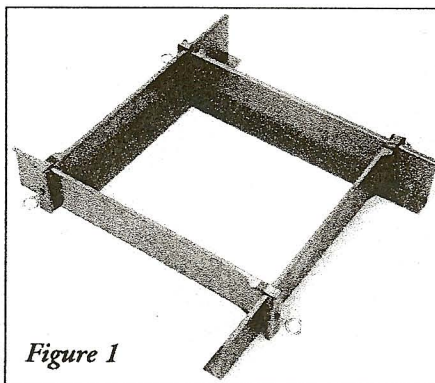

Figure 1
Step 3: Form preparation. If using this crown form the first time, oil the screws and insert them into the clamps. Measure the chimney top and select the four appropriate form sides. Use the 56" sections for chimneys wider than 28". Use the 92" sections (straight side forms only) for chimneys wider than 54". On a flat surface, lay the forms out in a rectangular formation, with equal lengths opposite each other. Figure 1 shows how the sides will be configured in the next step — note that the flanges are to the inside of the rectangle.